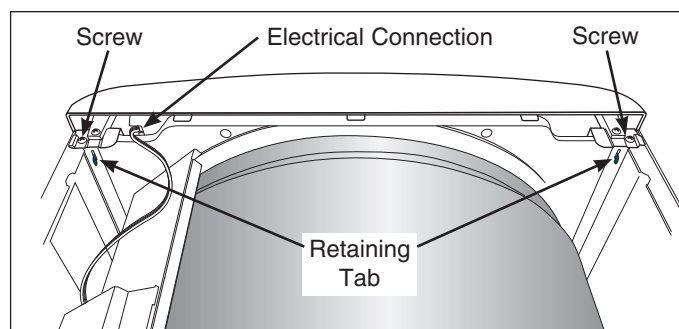

Figure 4-16.
2. Using a #2 square bit screwdriver, extract the screw from each side securing the console mounting bracket to the top of the unit frame. (See Figure 4-16)